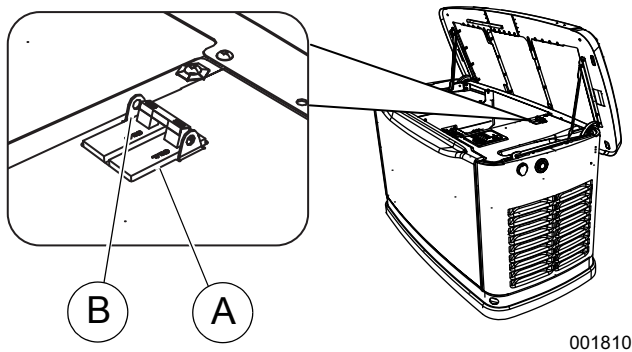

Figure 3-3. Main Breaker
This is a 2-pole breaker rated according to relevant specifications. See (A) in Figure 3-3.